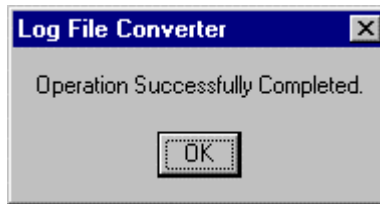

Figure 2.17. Log File Conversion Successful Message Box
6. A message box opens indicating the conversion completed (Figure 2.17).
5. A message box opens indicating the conversion completed (Figure 2.17).